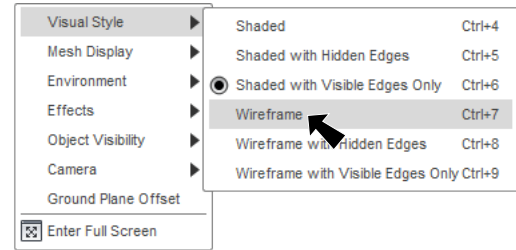

Fig. 13
Step 1. Switch Visible Style to **Wireframe (Ctrl-7)**. To switch to Wireframe, click the Display Settings  pull-down in the Navigation Bar at the bottom of the canvas and select **Visual Style > Wireframe**, **Fig. 13**.